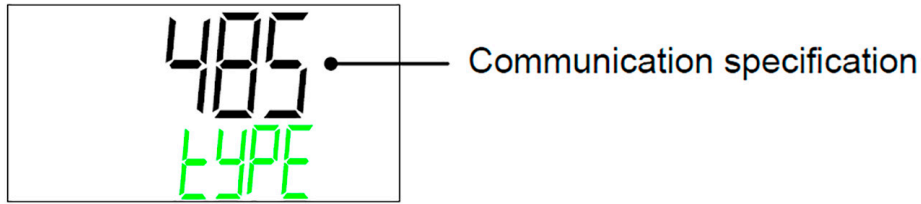

Figure 4-10. Communication Specification
3. Press the down arrow [▼] key twice to reach the communication specification setting screen, press [ENT]. See Figure 4-10.